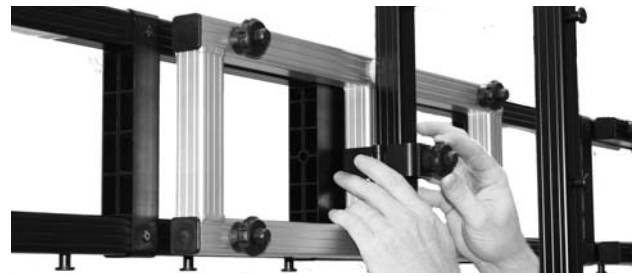

Figure 2
- ④ Measure and match the height of the screen, as Center Legs have to attach at top/bottom of screen frame, and all legs must be placed so that the screen is level.
- ⑤ Assemble Center Legs while screen is still on the ground. Measure from foot to the bottom of the screen—this must match the measurements at the side legs to assure screen is stable and level. Refer to leg assembly maps.
- ⑥ Position the center leg so that it rests against the foot pads on the Double Stiffeners.
- ⑦ Attach Center Legs to Double Stiffeners using Leg Clamps (one per Double Stiffener) (see Figs. 2 and 3).